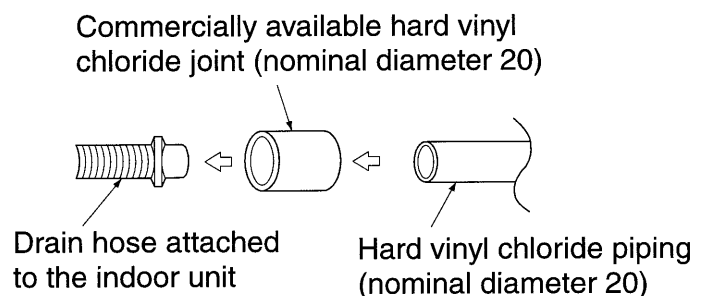

Fig. 16
- Use commercially available hard vinyl chloride joints (nominal diameter 20) when connecting hard vinyl chloride piping (nominal diameter 20) directly to drain hoses attached to the indoor unit, such as embedded pipes. **(Refer to Fig. 16)**